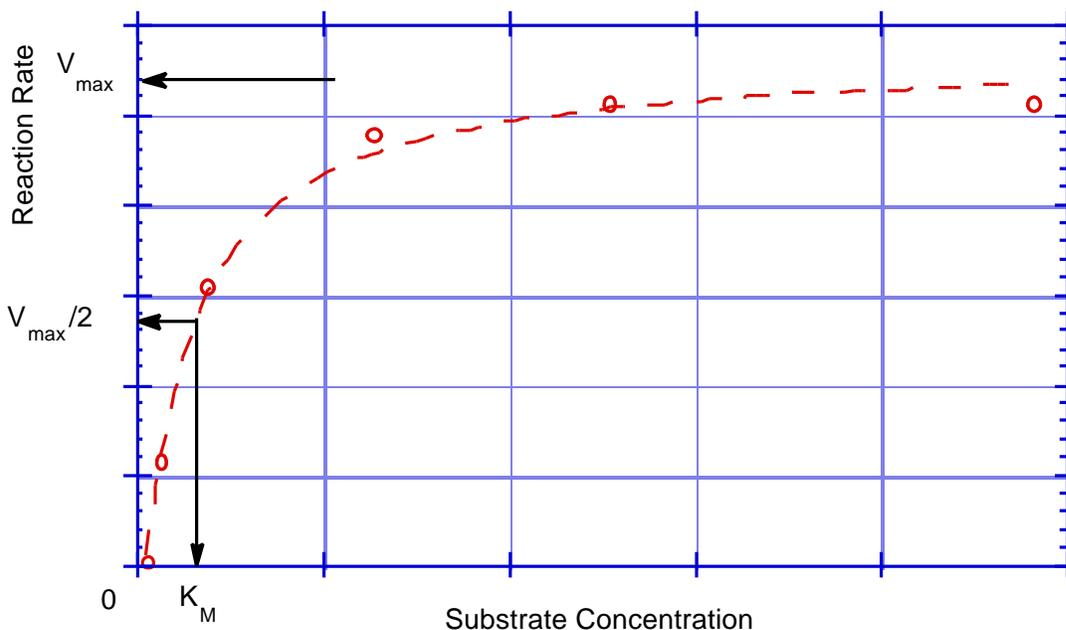
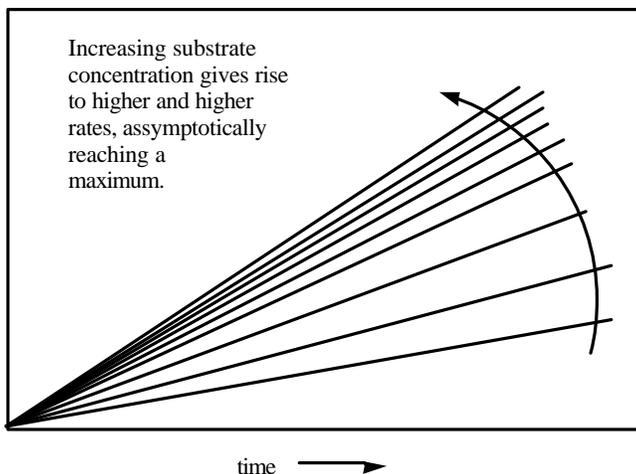

Figure 12a. Michaelis-Menten plot of enzymatic reaction rate vs. $[S]$
Figure 12b. Initial reaction rates of product formation vs. time with varying [S]
For most enzymes, the rate at which product is produced (v) varies with the concentration of substrates, $[S]$, as shown in Figure 12a (a rectangular hyperbola). At a fixed concentration of E, when the $[S]$ is low, v is proportional to $[S]$ and the reaction is first-order in substrate. As the $[S]$ is increased, the reaction becomes zero-order in substrate, that is, independent of the $[S]$. All of the enzymes active sites contain substrate and consequently increasing the $[S]$ no longer effects the rate of the reaction. Michaelis and Menten were the first to describe a mathematical relationship that could account for these experimental observations.
The simplest enzymatic reaction, one which is almost never observed experimentally, is shown in Eq. 1 and allows us to think about assumptions required to describe the observations in Fig. 12a without algebraic manipulation of large numbers of rate constants. The more complex systems with two, or as in our case three substrates, can be reduced to this simple case under limiting conditions.
The following assumptions have been made to derive a general equation that describes the data in Figure 12a. The experimental conditions are set up as follows which simplifies the analysis.
The kinetic constants are obtained by fitting the kinetic data to the Michaelis-Menten equation (8). This gives the curve shown in Figure 12a. In order to obtain such a plot, one must first generate several plots of [P] versus time, at different initial [S]s (see Figure 12b). The slopes of these lines (multiplied by the appropriate conversion factor (dilution factor and/or extinction coefficient) give the initial
velocities which are used to generate the plot in Figure 12a. Since it is only the slopes of the curves that we are interested in, there is no need to measure product formation from exactly time zero, if one is performing a real time assay (and as long as no appreciable amount of product is allowed to accumulate). If, however, one is performing fixed time point assay, it is essential to record the exact time between the starting and stopping, or quenching, of the reaction.